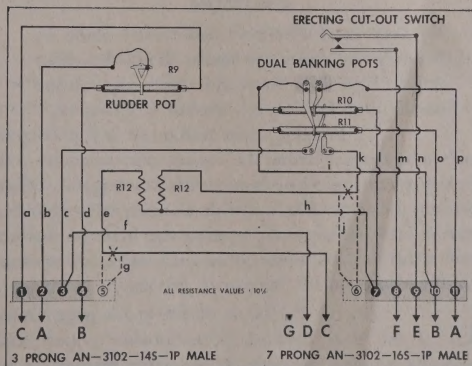

Figure 311 — Directional Panel Wiring Diagram
(5) INSTALL WIRING AND CHECK CONTINUITY. (See figure 311.)
The first issue of directional panels had only four terminals on the left-hand terminal block and five terminals on the right-hand terminal block. In the second issue, the left-hand strip was changed to a five-terminal strip so that the lead ϵ could be conveniently opened for testing. The right-hand terminal block remained the same on this second issue of panels. On the third issue of directional panels, the left terminal strip remained the same and the right strip was changed to accommodate six terminals. In this instance, lead k was opened and lead j and k were both attached to terminal No. 6. It is, therefore, important to note specifically which wiring arrangement is used in the particular panel being overhauled so that tests may be made correctly. The wiring diagram (figure 311) will serve as a check guide for all three terminal arrangements provided in the G1005B directional panels.
(b) Check continuity with an ohmmeter to be sure all connections are made in accordance with the wiring diagram (figure 311).
1. Connect the ohmmeter leads between terminal Nos. 1 and 4. (See figure 311.) Note the exact total resistance of the potentiometer winding.